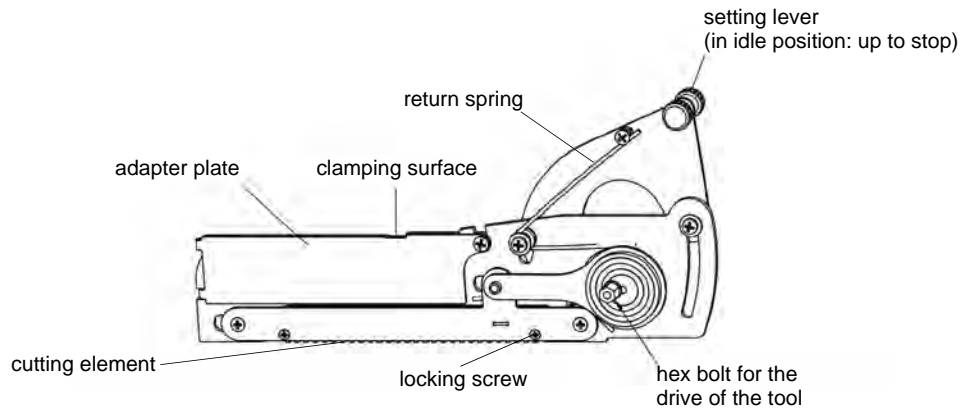

Fig. 4.1: Design of the automatic WI tool
- Use the adapter plate to fit the automatic WI tool to the width of the coupling plate aperture (3 mm or 5 mm) of the pipe mounting fixture (see Fig. 4.1).